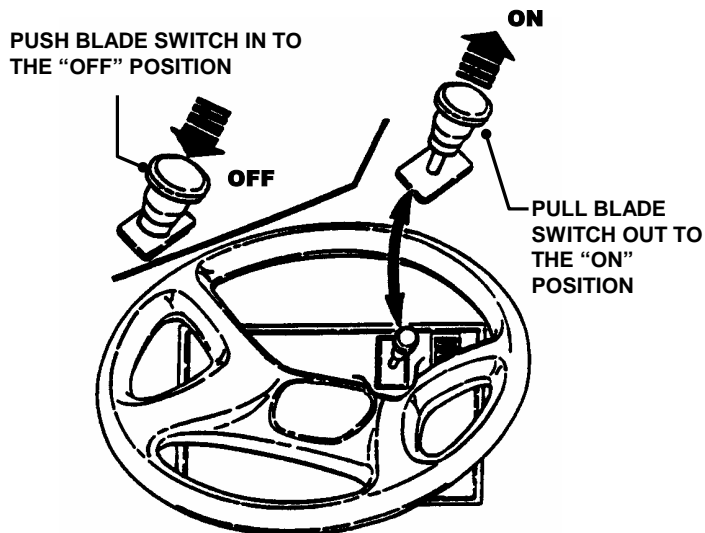

FIGURE 2.11
1. Stop mower blade by pushing blades switch IN to disengage blades. See Figure 2.11.